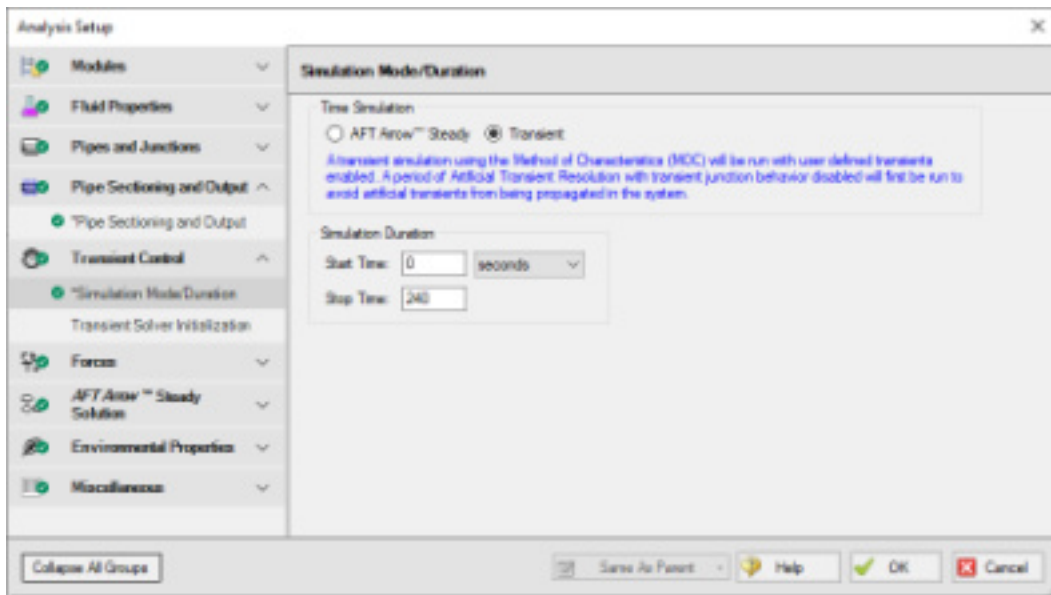

Figure 2.17 The Simulation Mode/Duration panel is used to specify the simulation type and the time span for the transient
- **Select the Simulation Mode/Duration panel.** Enter 0 seconds for the Start Time and 240 seconds for the Stop Time (Figure 2.17).